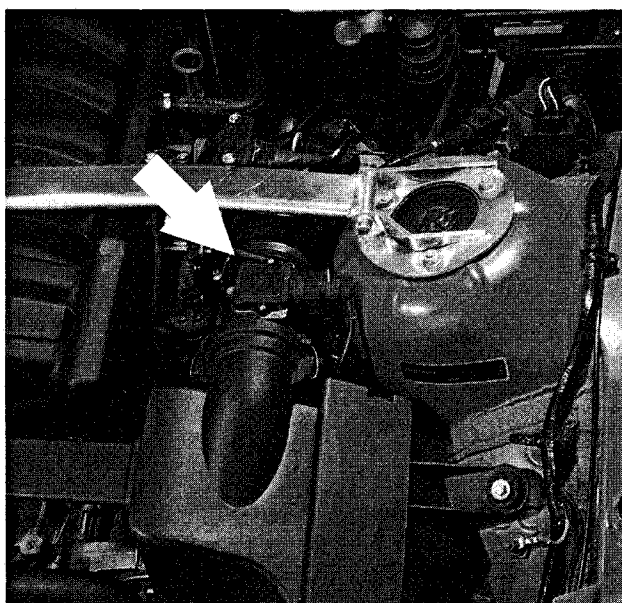

Fig. 37. Mass air flow sensor (arrow) on M52 engine.
1. Disconnect harness connector and intake air boots from air flow sensor. See Fig. 37.